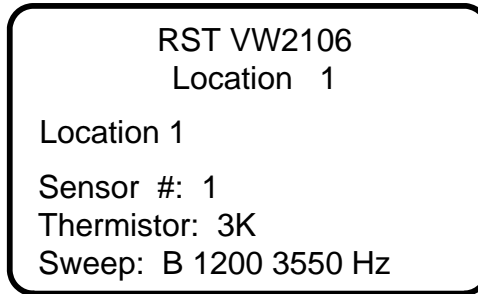

Figure 24 – Select Location
If the *Import From Loc.* option is chosen (selecting option 2 and pressing *enter*), the screen will advance to the location screen (i.e. Figure 24), assuming at least one location was defined. If no memory locations currently exist in the readout's memory, a screen will appear stating "No Locations". Each location has its own specific settings such as: number of sensors; thermistor type and sweep frequency. Use the arrow keys to scroll to the location which you would like to set the monitor settings to. Press *enter* when complete. The location label will appear at the top of the screen indicating location settings currently in use.
- Press *Enter* and the screen will change to the location screen (Figure 24). Use the arrow keys to scroll to the location that is to be zeroed. Press *Enter* and the following screen will appear: